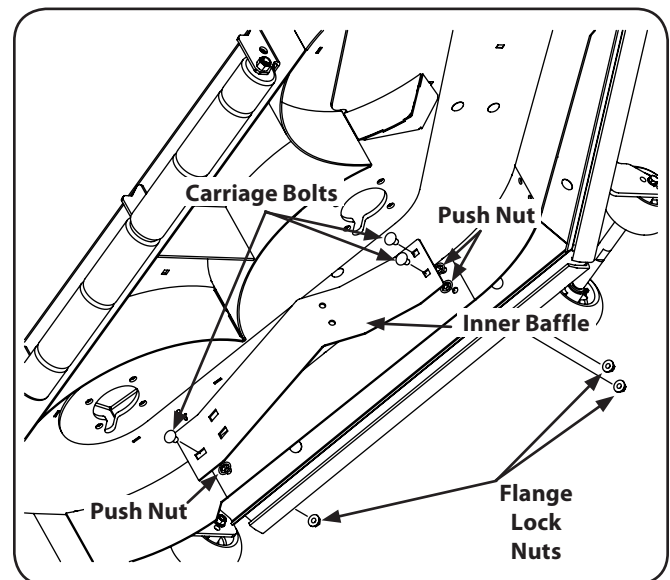

Figure 6-10
1. Remove the carriage bolts, push nuts and flange lock nuts that secure the baffle to the deck to mow high-volume grasses. See Figure 6-10.